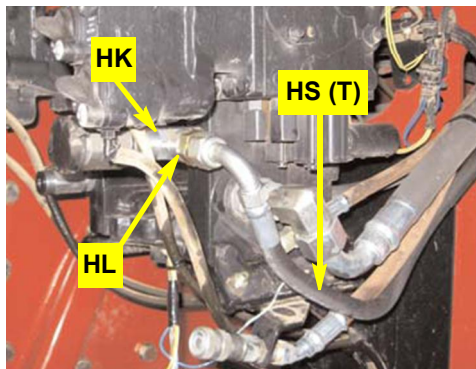

Figure 6c: Installed tank hose at the right side of the valve stack
- c. Route the tank hose **HS** to the right side of the valve stack. Connect it to adapter fitting **HL** in the run-tee **HK** installed in the bottom right (**T**) port of the valve stack at step 4c (Figure 6c).